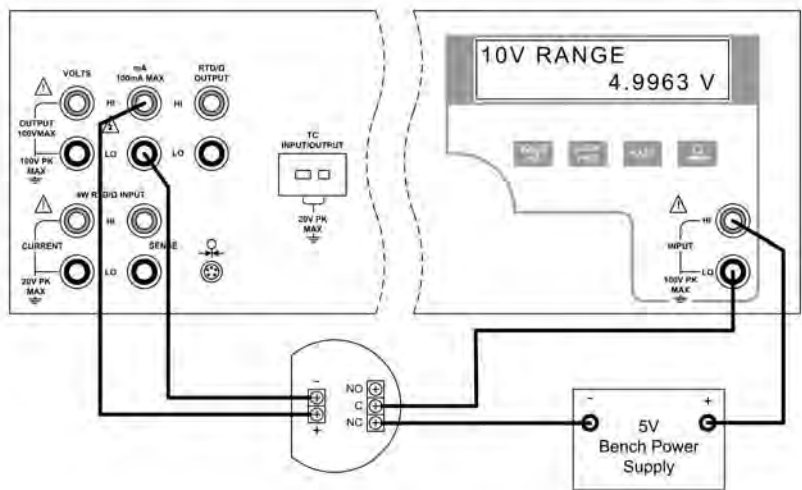

Figure 28 - Precision Current Trip Application
4. Connect the trip as shown in figure 28.